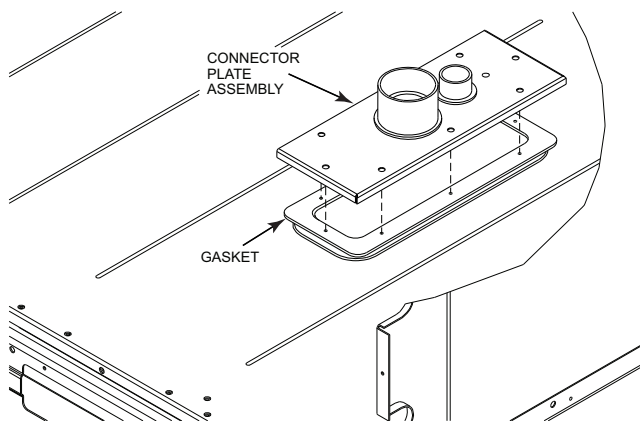

Fig. 65 — Completing Installation of Thru-the-Base Option (Size 16)
3. Place the gasket over the embossed area in the basepan, aligning the holes in the gasket to the holes in the basepan. See Fig. 65.